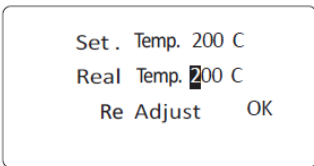

Fig.4
6.1 input real temperature (see Fig.4), soldering iron station will calculate temperature.
For example :“set.Temp”is 350℃, “Real Temp.”is 320℃, after temperature calibration as Fig 4.,temperature will rise to 350℃.